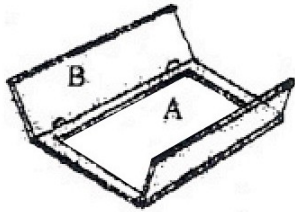

Figure 2
2. Installing the Front side Panels (B): Insert the right and left front side panels (B) into the grooves of face frame (A) and align the cam lock connectors (Figure 2). Lock the cam lock with a screwdriver by turning the screw 180° degrees clock.